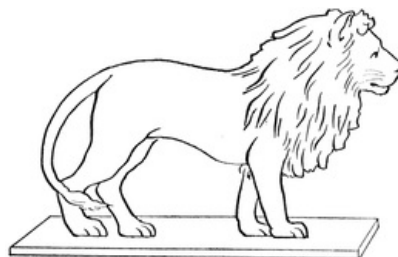

FIG. 426
1. **A Zoo or Wild-Beast Show.** The animals for this may be jointed models like the elephant and giraffe (Part I, Chapter XX); in this case they will stand quite well; or they may be cut in one piece and glued to an oblong strip of wood for a stand, as the lion and other beasts in Figs. 426 to 430. Three-ply wood or satin walnut 1/8 inch thick is suitable for these animals, which however may also be cut out of cardboard and glued into slits cut in a wooden stand.